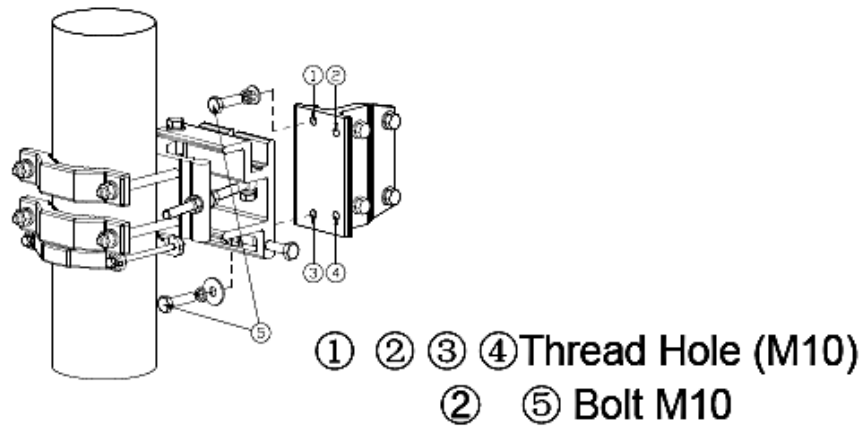

Fig 5.3
①Bolt M10 ②Elevation Adjustor
Make coarse elevation adjustment (shown in Fig 5.3): loosen the bolts (No.5). Use ① & ④ thread holes, antenna can make elevation adjustment from +5° to +25°. Use ② & ③ thread holes, antenna can make elevation adjustment from -5° to -25°. Tighten all the standard parts after the adjustment is done.